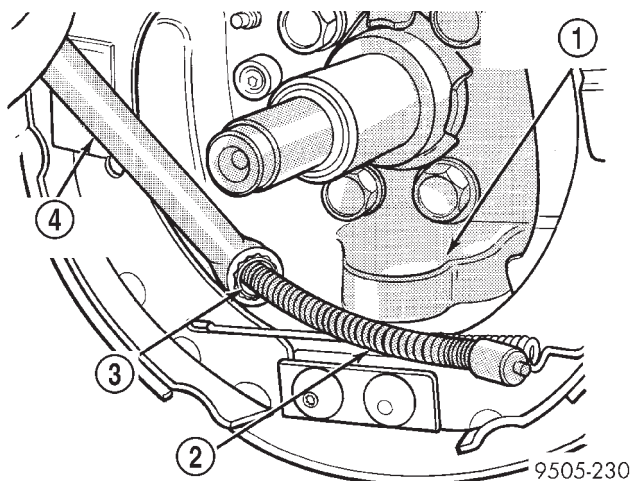

Fig. 146 Park Brake Cable Removal From Brake Support Plate
(26) Remove park brake cable (Fig. 146) from rear brake support plate. Park brake cable is removed from brake support plate using a 1/2 in. wrench as shown in (Fig. 146) to compress locking tabs on park brake cable retainer.
(27) Raise vehicle.